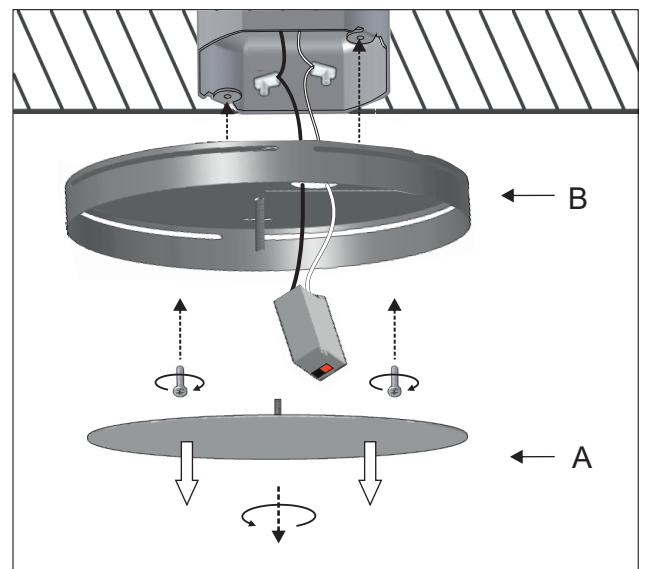

Figure 1
- 1 - Unscrew the canopy cover (A) by turning it to separate it from its mounting bracket (B). Run the electrical cables through the hole of the mounting bracket (B) and make the electrical connections in the Junction Box. Attach the mounting bracket (B) to the ceiling. Figure 1